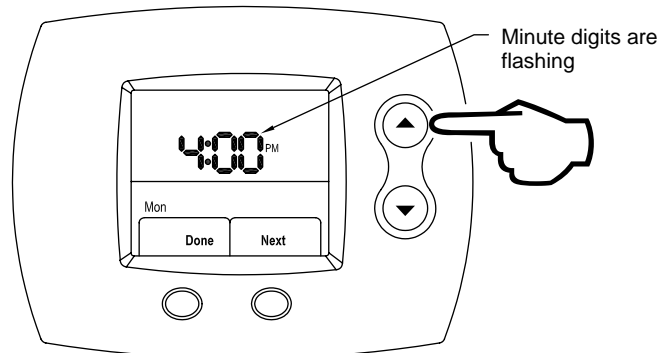

Figure 112
Step 4: Using the **UP** (increase minute) or **DOWN** (decrease minute) buttons, adjust the minute until the correct one is shown. This process is shown in Figure 112.